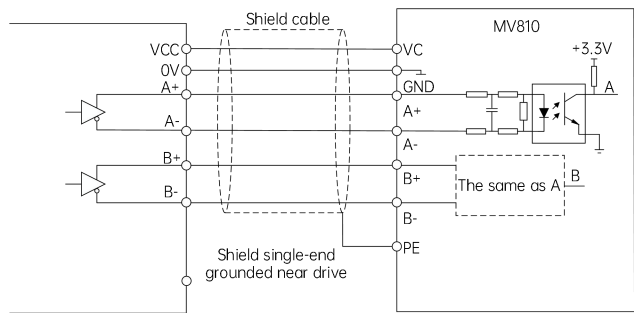

Fig. 4-22 Wiring diagram for differential signal PG
(3) When the PG output signal is a differential signal, the wiring with the interface board is as shown in Fig. 4-22: